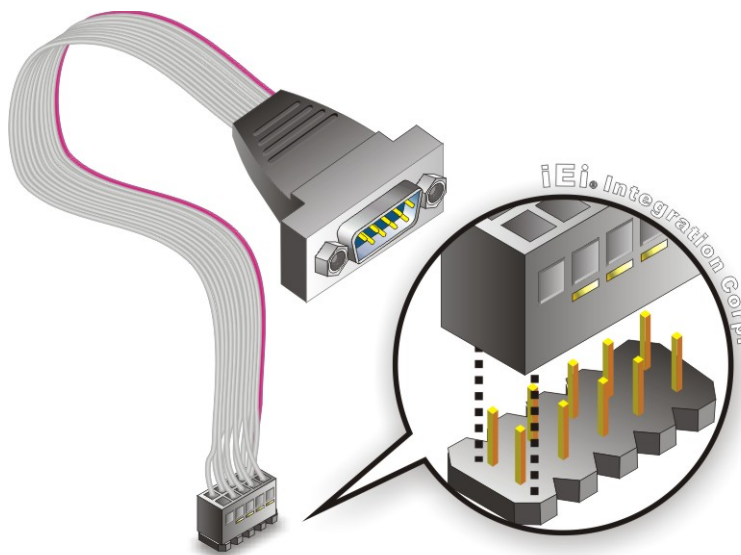

Figure 4-17: Single RS-232 Cable Installation
Step 2: **Insert the cable connector.** Insert the connector into the serial port box header. See Figure 4-17. A key on the front of the cable connectors ensures the connector can only be installed in one direction.